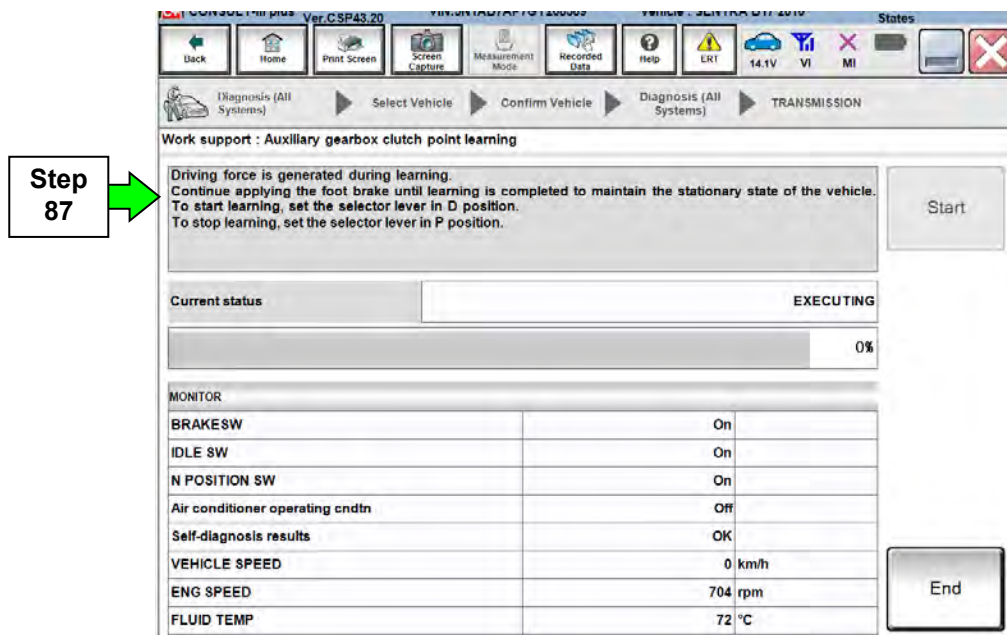

Figure 46
- Figure 46 (below) will be displayed after shifting into D position.
NOTE: The Current status will show EXECUTING (Figure 46), but until the vehicle is shifted into the D position, Auxiliary gearbox clutch point learning will not begin.